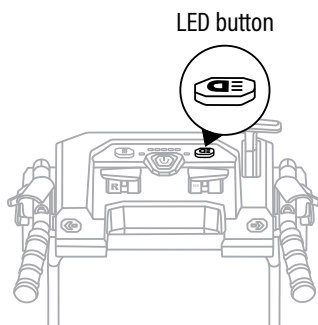

Fig. 11B
2. Press the LED button on the control panel, the LED light on, all three lights will turn on simultaneously. (Fig. 11B)